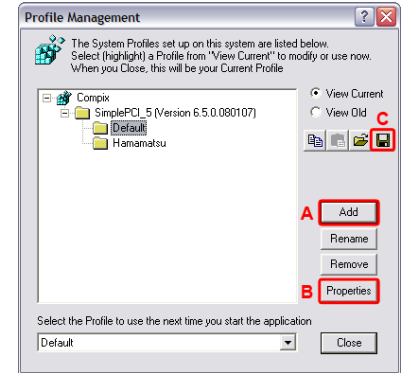

fig.1
11. Save Profiles by clicking on the **Save** icon (**fig.1.C**)